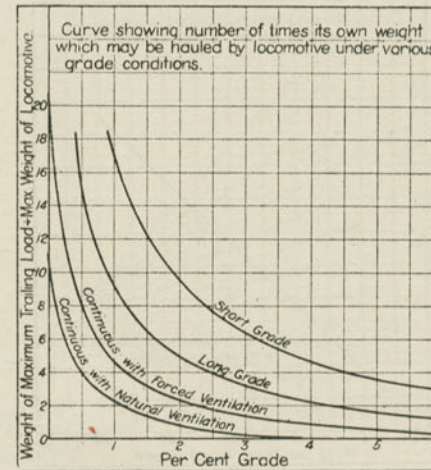

Fig. 398.
A. Referring to Fig. 398: the maximum trailing load would be 7.7 times the engine weight, or 220 tons, with natural ventilation.
A. Suppose 500 tons trailing load were needed, and the road such as to be equivalent to continuous pulling on a 0.3 per cent. grade; the free running speed on the level being 12 m. p. h. and using forced ventilation the short grade curve (Fig. 398) shows that a locomotive can handle 9.6 times its own weight on the maximum short grade; with continuous forced ventilation, 10.7 times. The short 2 per cent. grade fixes the weight: not less than
**A.** It depends on the profile of the road. Say there are 2 per cent. grades for 1,500 to 2,000 feet. Fig. 398 is a diagram showing the comparative trailing loads with various grades. On 2 per cent. the engines can haul 9.6 times its own weight; i. e.,  $9.6 \times 28.5 = 273$  tons, say seven or eight average cars of 35 to 40 tons gross weight.
**A.** Fig 398 shows the influence of both natural and